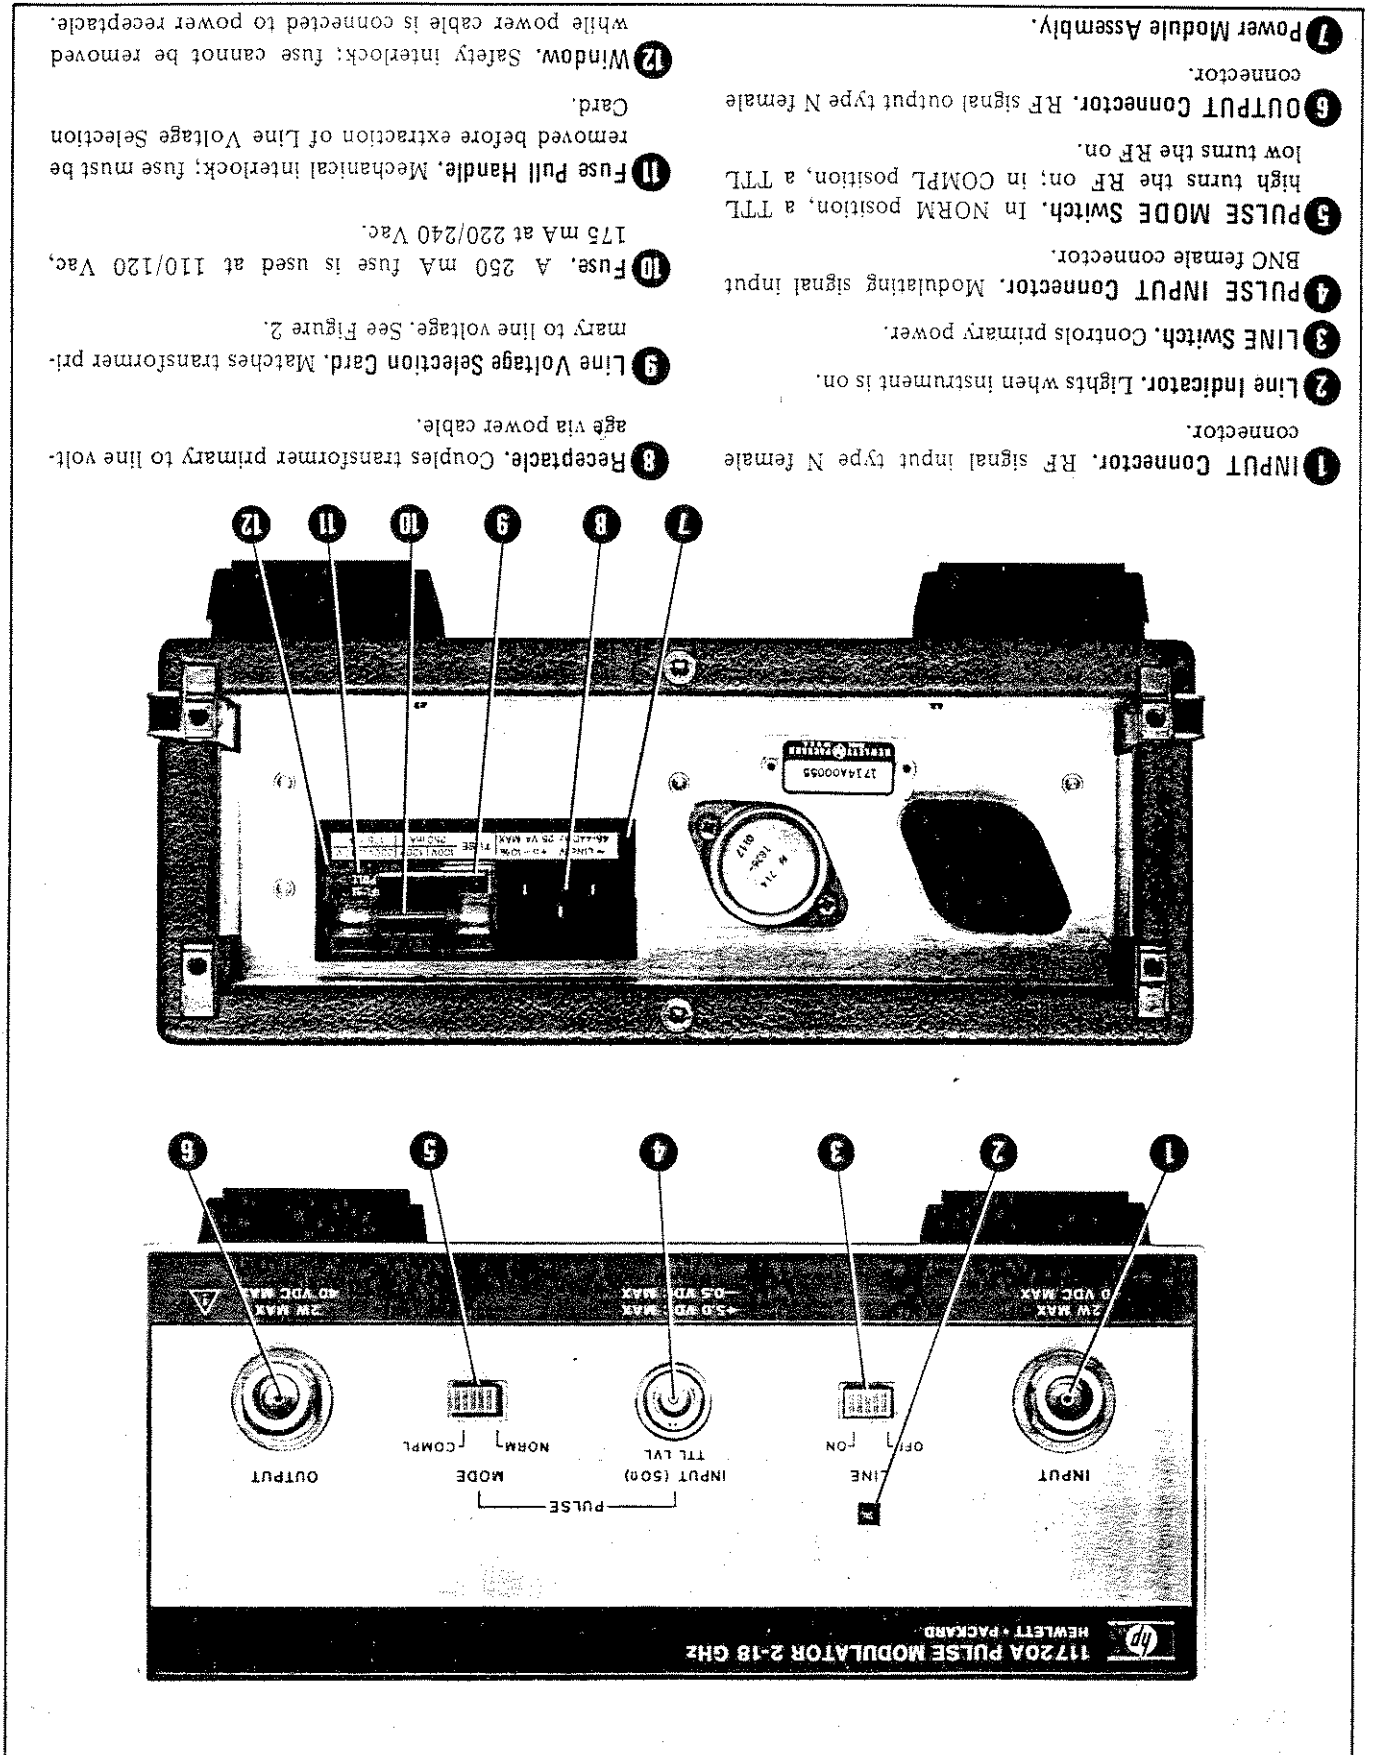

Figure 4. Front and Rear Panel Controls, Connectors, and Indicators
47. Controls, connectors, and indicators of the 11720A are explained in Figure 4. To operate the instrument, proceed as follows: